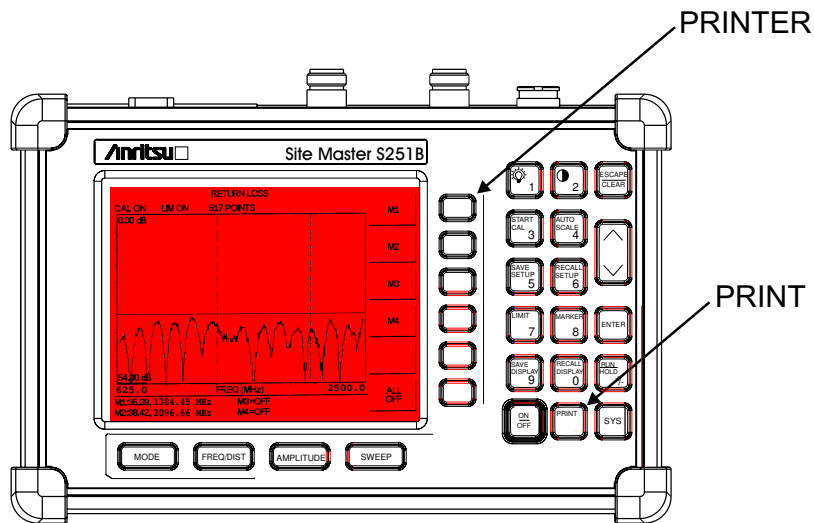

Figure 3-15. PRINTER Soft Key and PRINT Key
- Step 5.** Press the **PRINT** key. (Figure 3-15).